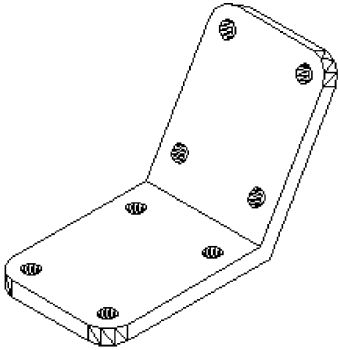

Fig. 17.6 First example – changing UCS planes
First example – changing UCS planes (Fig. 17.6)
11. Place the 3D model in the **SW Isometric** view and call **Hide** (Fig. 17.6).